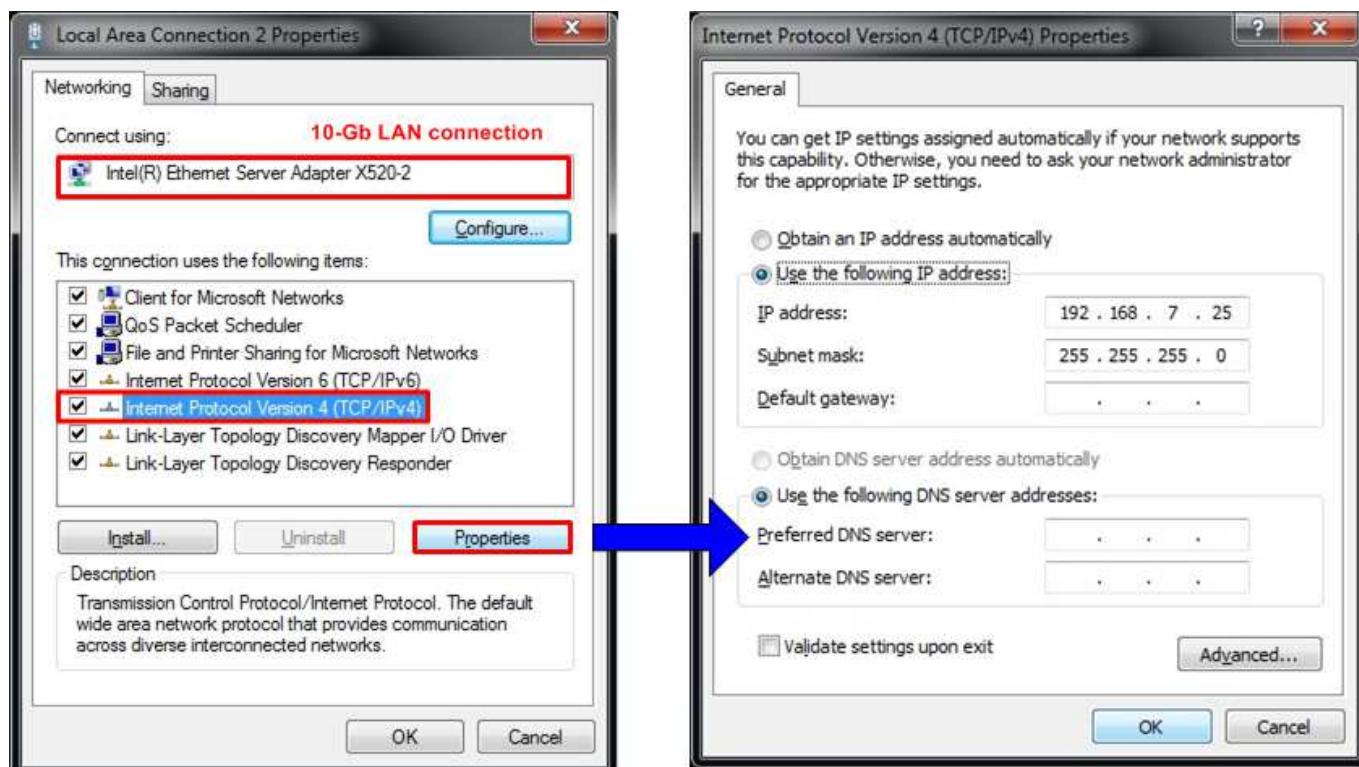

Figure 3-1 Setting IP address for PC
- 1) Open Local Area Connection Properties of 10-Gb connection, as shown in the left window of Figure 3-1.
- 3) Set IP address = 192.168.7.25, and Subnet mask = 255.255.255.0, as shown in the right window of Figure 3-1.